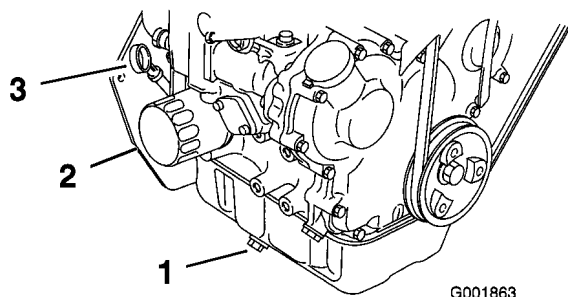

Figure 47
5. Place a pan below the oil drain. Remove the drain plug and let the oil drain completely (Figure 47).